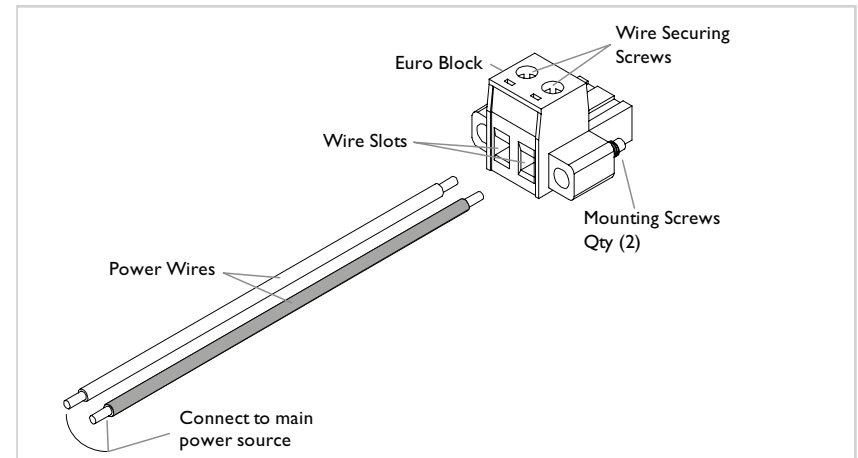

Figure 3: Installing Power Wires
4. Use the “2” wire-securing screws to secure the power wires in the Euro Block. See Figure 3.
6. Reinsert the Euro Block into the power module and secure it using the 2, Euro Block mounting screws, shown in Figure 3.